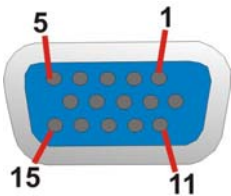

Figure 3-35: VGA Connector
- CN Pinouts:** See **Table 3-36** and **Figure 3-35**